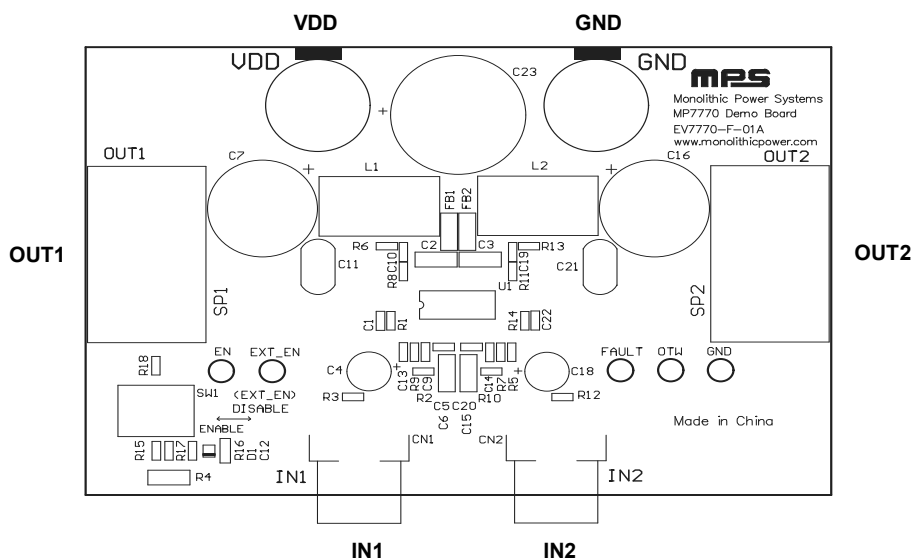

Figure 1: Measurement Equipment Set-Up
The EV7770-F-01A evaluation board is configured at the factory for 24V single-ended operation. To use the EV7770-F-01A with a 36V or 12V power supply, adjust the components according to step 5 or step 6, respectively. Refer to the MP7770 datasheet for more details. For proper measurement equipment set-up, refer to Figure 1 and follow the steps below:
10. Figure 1 shows the measurement equipment set-up.